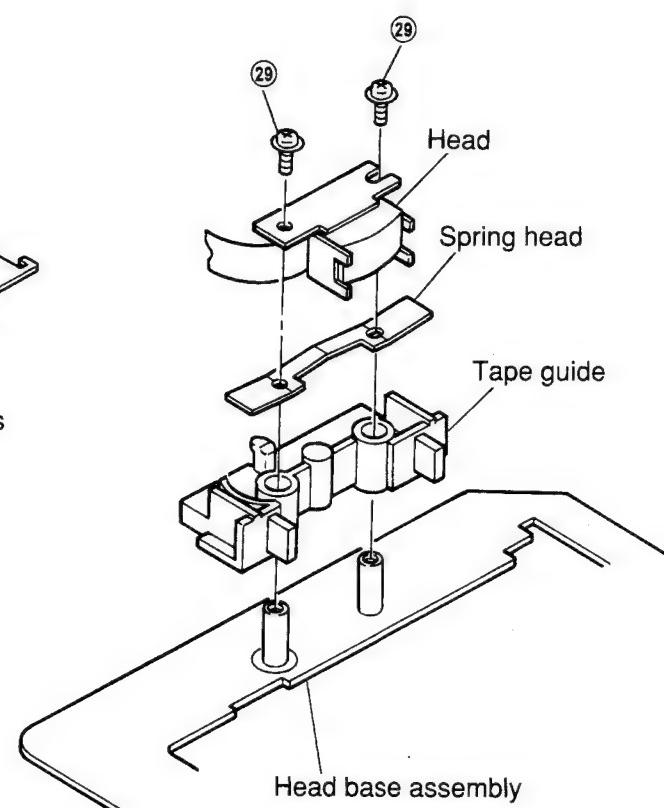

Figure 21
- (1) After removing the pinch roller spring, remove two screws ②9 as shown in Figure 21.